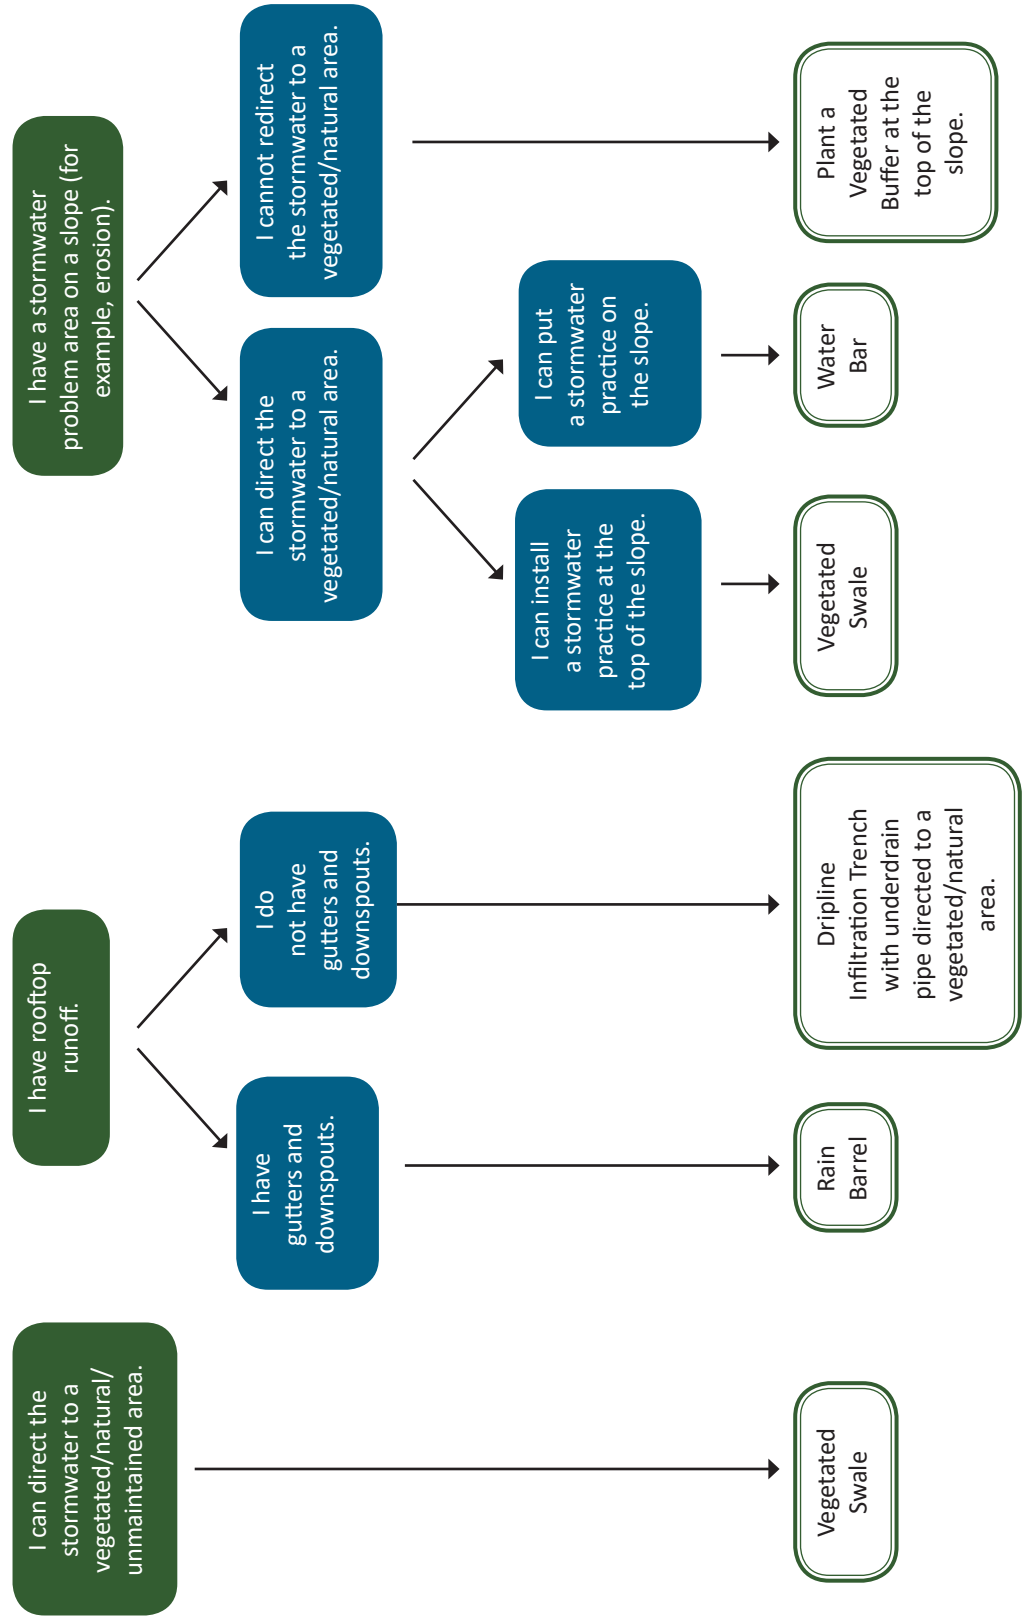

**Figure 2** – An infiltration test is performed to determine how well the soil will absorb and infiltrate runoff.
- Place a ruler or yard stick in the hole. Note the water level and time. Multiply the change in water level by four to get the number of inches of infiltration per hour. A rate of at least  $\frac{1}{2}$ -inch per hour indicates that the soil is appropriate for an infiltration practice. See Figure 2.
While the primary purpose of the practices in this guide is to address stormwater runoff and pollution, there is an opportunity to provide additional benefits to the ecosystem and greater community through thoughtful design. For example, incorporating native plants provides the added benefit of providing a food source for native pollinators. Using locally grown plants or locally sourced wood and stone products supports local businesses and reduces energy required for transportation. This concept of “stacking functions” is discussed in more detail in the box on the following page. Examples of incorporating additional ecosystem benefits to stormwater practice designs are shown in Figure 1 below and Figure 2 on the next page.